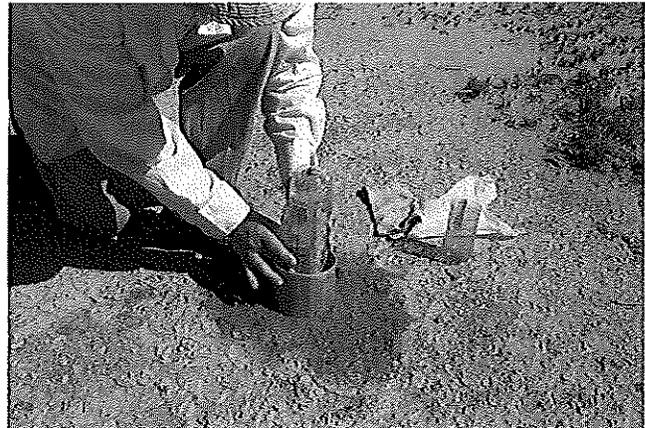

Figure 8.7. Suspend bottle inside the ring.
8. Place bottle in ring (Fig. 8.7).